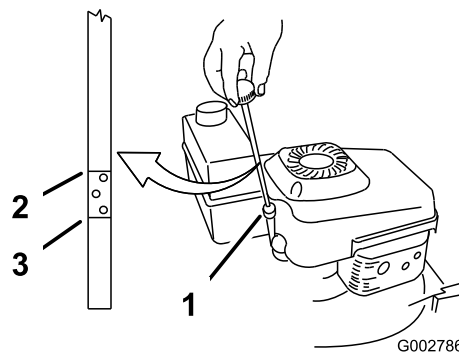

Figure 11
Before each use, ensure that the oil level is between the Add and Full marks on the dipstick (Figure 11).
2. Clean around the dipstick (Figure 11).
6. Remove the dipstick and read the oil level (Figure 11).